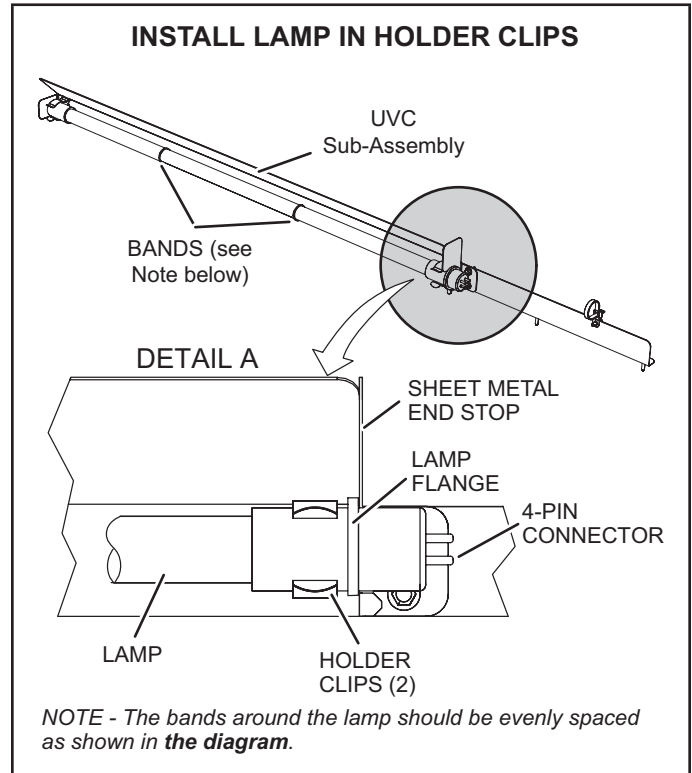

FIGURE 36
- 5 - Remove the (2) mounting screws of the UVC assembly. Carefully slide the complete UVC assembly out through the blower access door.
- 7 - Wear cotton gloves or use a cotton cloth when handling the new lamp. Place the new lamp in the holder clips of the UVC assembly. Verify that the lamp flange at the connector end is sandwiched between the lamp holder clip and the sheet-metal end stop (see FIGURE 36).